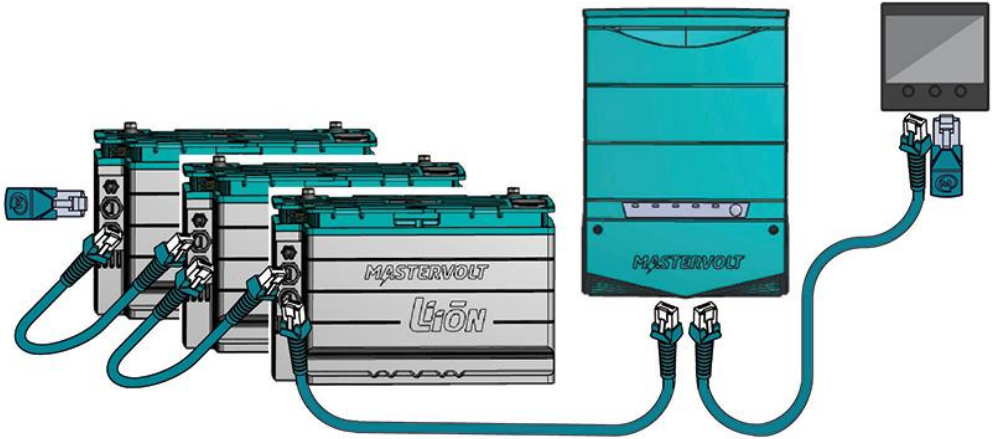

Figure 5: MasterBus cables
- MasterBus: connect two MasterBus cables (or one cable and one Terminator). See Figure 5 on page 12.